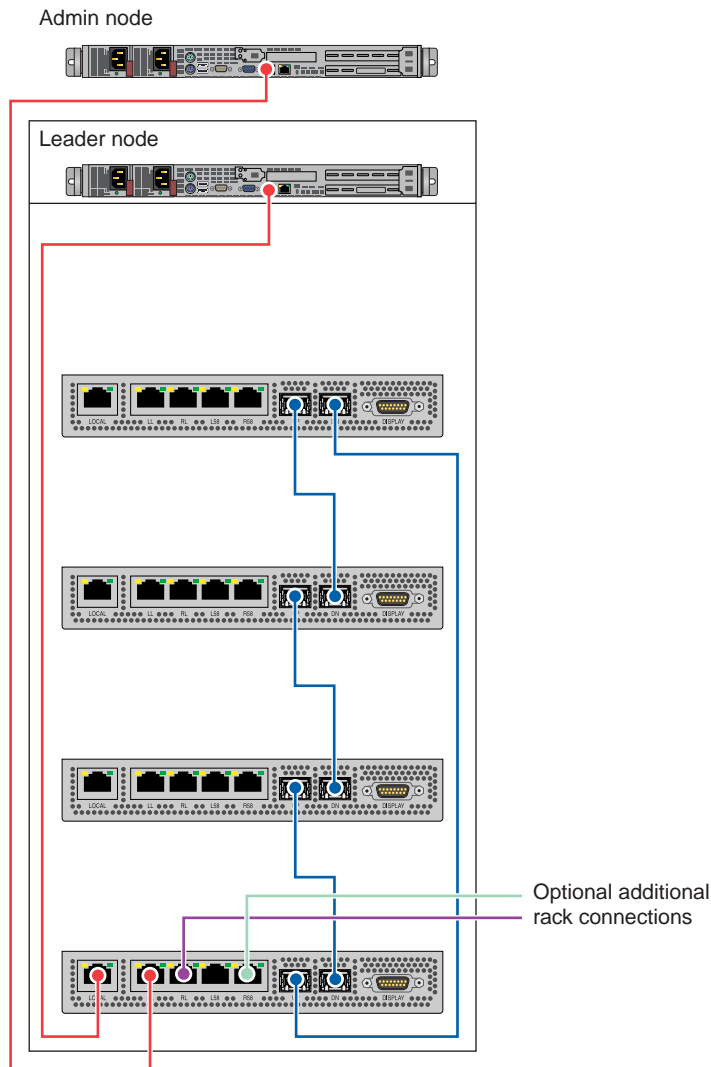

Figure 2-2 Chassis Manager Interconnection Diagram Example
- All enclosures within a system communicate with each other through their chassis manager connections (CMC) (note the chassis managers are enlarged for clarity in Figure 2-2).
The chassis manager in the lower IRU connects to the administration and leader nodes, see the example in Figure 2-2.